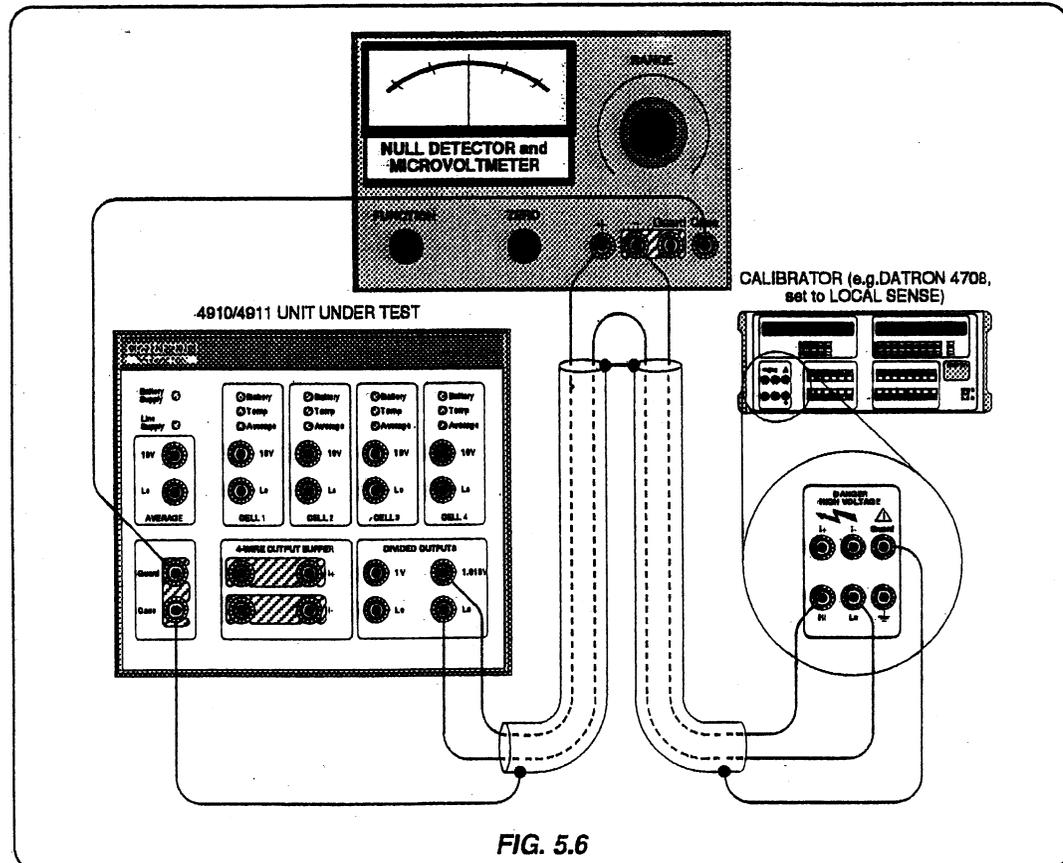

FIG. 5.6
16. Connect the null detector to the 4910 and the 4708 calibrator as shown in Fig 5.6.